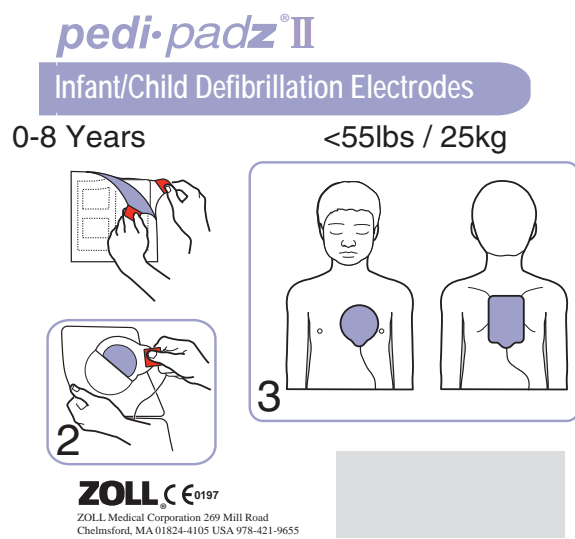

Figure 6: Placement of **pedi•padz II**
1. Tear open the electrode package and unfold the inner package to expose the electrodes. Place the electrodes on the victim according to the graphics on the package (see Figure 6).
2. Remove the round electrode from its backing material and place it on the victim's chest (as shown in Figure 6).
4. Roll the victim onto his/her chest, remove the square electrode from its backing and place it on the victim's back (as shown in Figure 6).